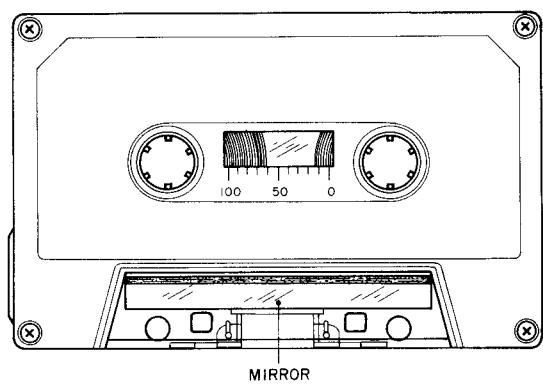

Fig. 11
- NOTES 1. When a 4 track, 1 kHz 0 VU recorded test tape is not available, for head height adjustment, use a cassette pack in which a mirror has been installed as shown in Fig. 11, and adjust head height adjustment screw until the edge of the head core and the edge of the tape are even.